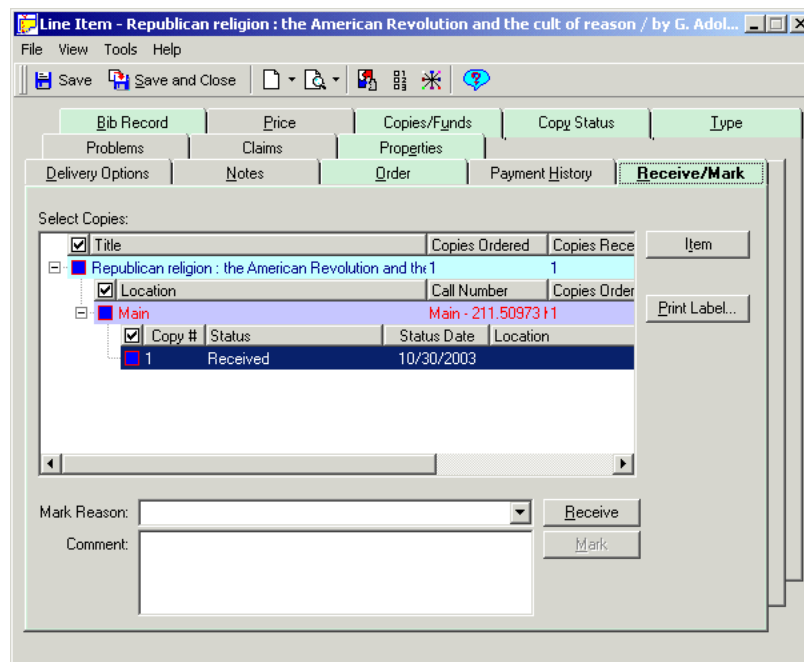

Figure 10-6. Line Item dialog box - Receive/Mark tab
4. After you have selected the copy or copies that you want to receive (Figure 10-6), click the **Receive** button.